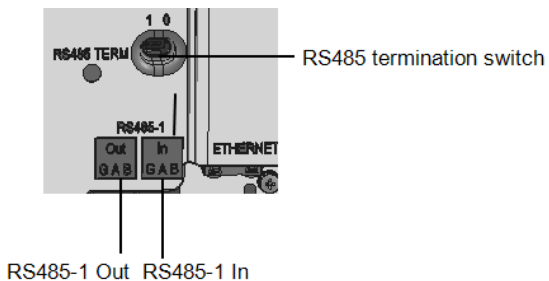

Figure 36: RS485 connectors and termination switch
- Push the RS485 terminal blocks firmly all the way into the connectors on the communication board, see *Figure 36*.
11. Terminate the first and last inverters on the bus by moving the termination switch to ON (left position); See *Figure 36*. The other inverters on the bus should have the termination switch OFF (right position).